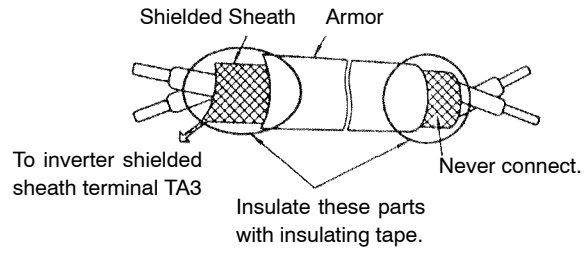

Fig. 5 Shielded wire termination
- Use a shielded wire to connect to the PG. Connect the wire as shown in Fig.5 to prevent interference by noise. The wire must be 50m or shorter.